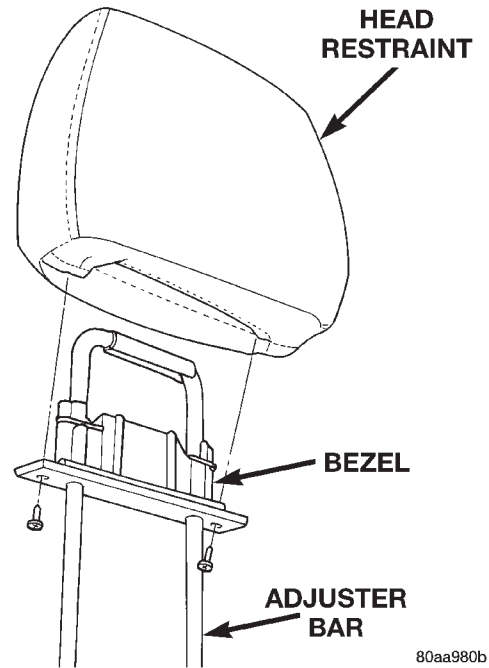
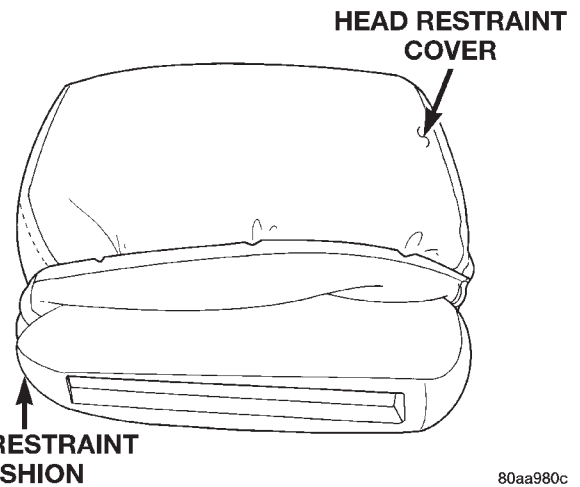

Fig. 5 Head Restraint
Fig. 6 Head Restraint Cover
- (1) Remove head restraint from the bucket seat.
- (2) Remove the screws attaching the bezel and adjuster bar to the head restraint (Fig. 5).
- (3) Pull the adjuster bar from the head restraint.
- (4) Roll the cover upward and separate from the head restraint cushion (Fig. 6).